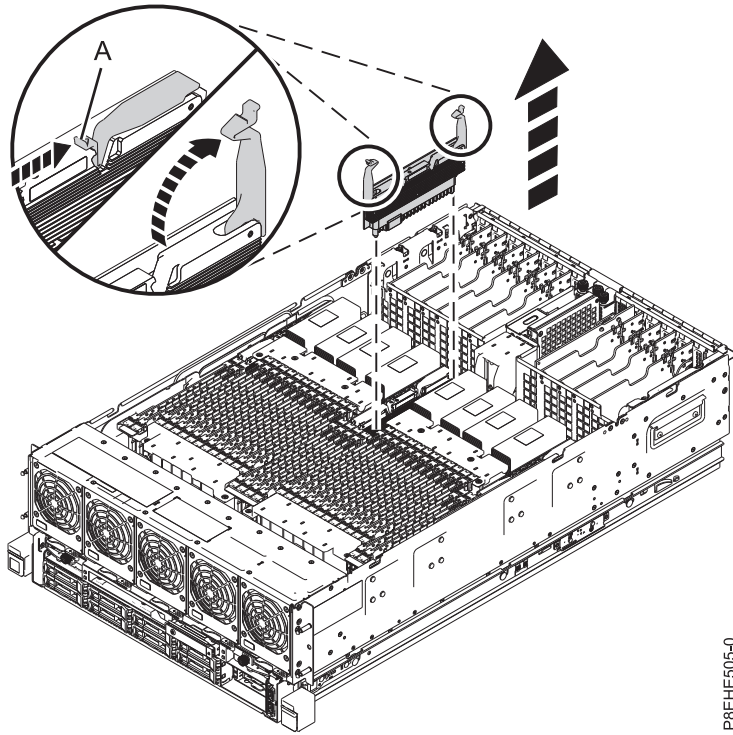

Figure 12. Removing a processor voltage regulator module from the system
- a. Pull the connector tabs (A) up and then out, as shown in Figure 12 on page 22.